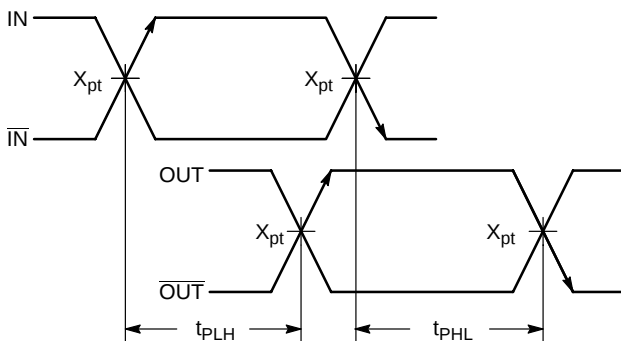

Figure 24. Differential Propagation Delay
**Differential ECL Devices** – Differential propagation delay is measured between the crosspoint of the input rising or falling edge, and the crosspoint of the identical output edge. There are many types of differential input/output pairs such as inverted clock inputs to inverted data outputs (CLK to  $\overline{Q}$ ). Differential output propagation delay is shown in Figure 24.